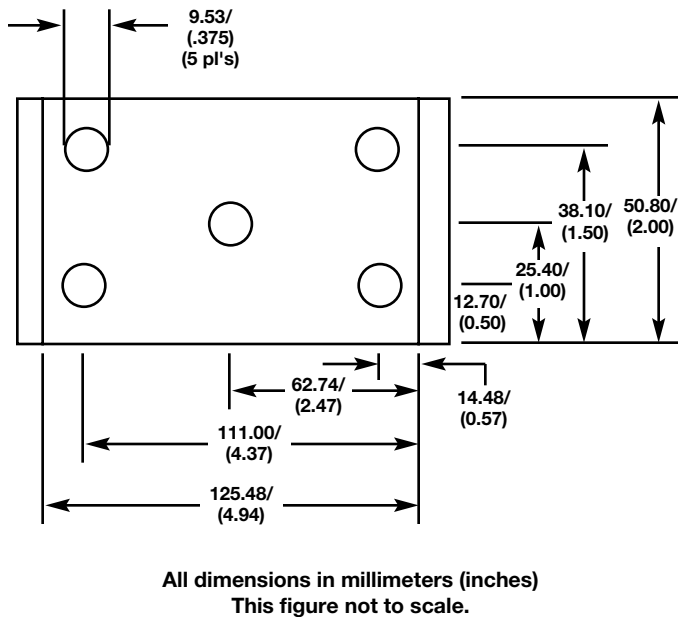

Figure 2. Mounting Bracket Template Illustration
B. For surface mounting, with the adjustable bracket (23525873), drill the holes in the location selected using the surface mount template illustration. See Figure 2.